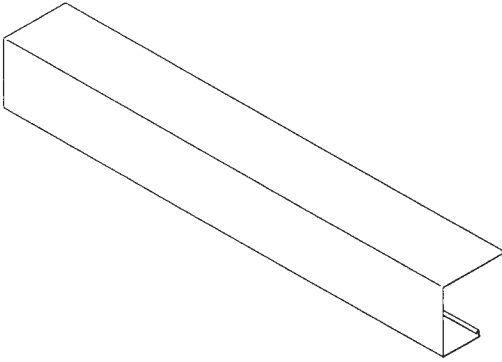
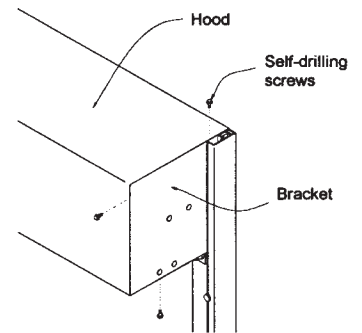

Figure 13
Figure 14
Step 9: Install hood; refer to Figure 13. Place hood between brackets with end over lapping bracket returns and clip angles. Using #10 x 1/2" self-drilling screws attach hood to bracket returns and clip angles as necessary; refer to Figure 14.